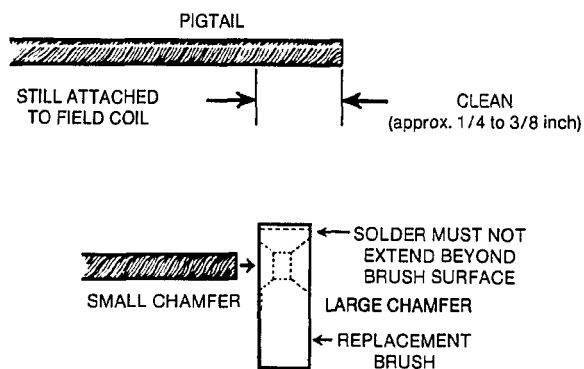

FIGURE 9. BRUSH REPLACEMENT
**Brush Replacement:** Cut old positive brush from pigtail at the brush. Be careful not to damage field coil. Clean 1/4 to 3/8 inch (6.5 to 9.5 mm) of brush end of pigtail with sandpaper or emery cloth (Figure 9).